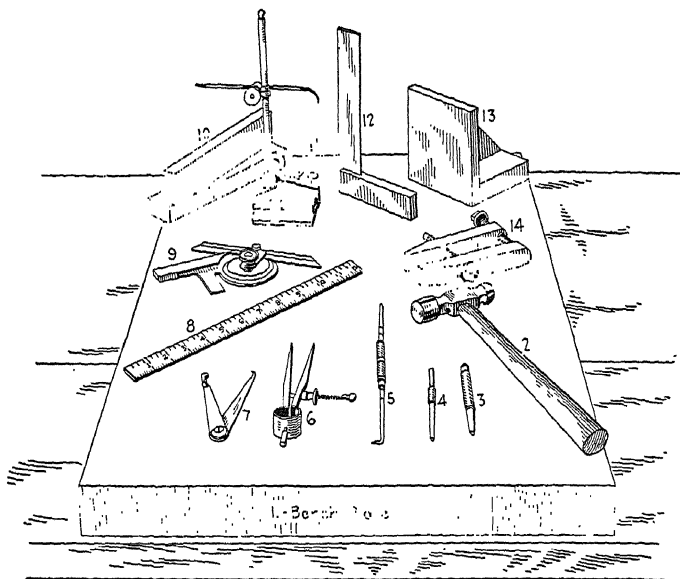

FIG. 216.—Tools used in laying out.
**247. Tools Used for Laying-out Work (Fig. 216).**